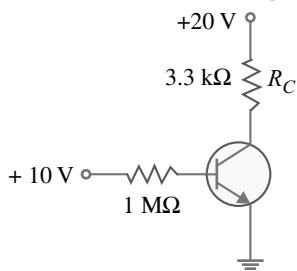

Fig. 6.80
13. Draw the d.c. load line for Fig. 6.80. [The end points of load line are 6.06 mA and 20 V]
14. If the collector resistance  $R_C$  in Fig. 6.80 is reduced to 1 kΩ, what happens to the d.c. load line? [The end points of d.c. load line are now 20 mA and 20 V]